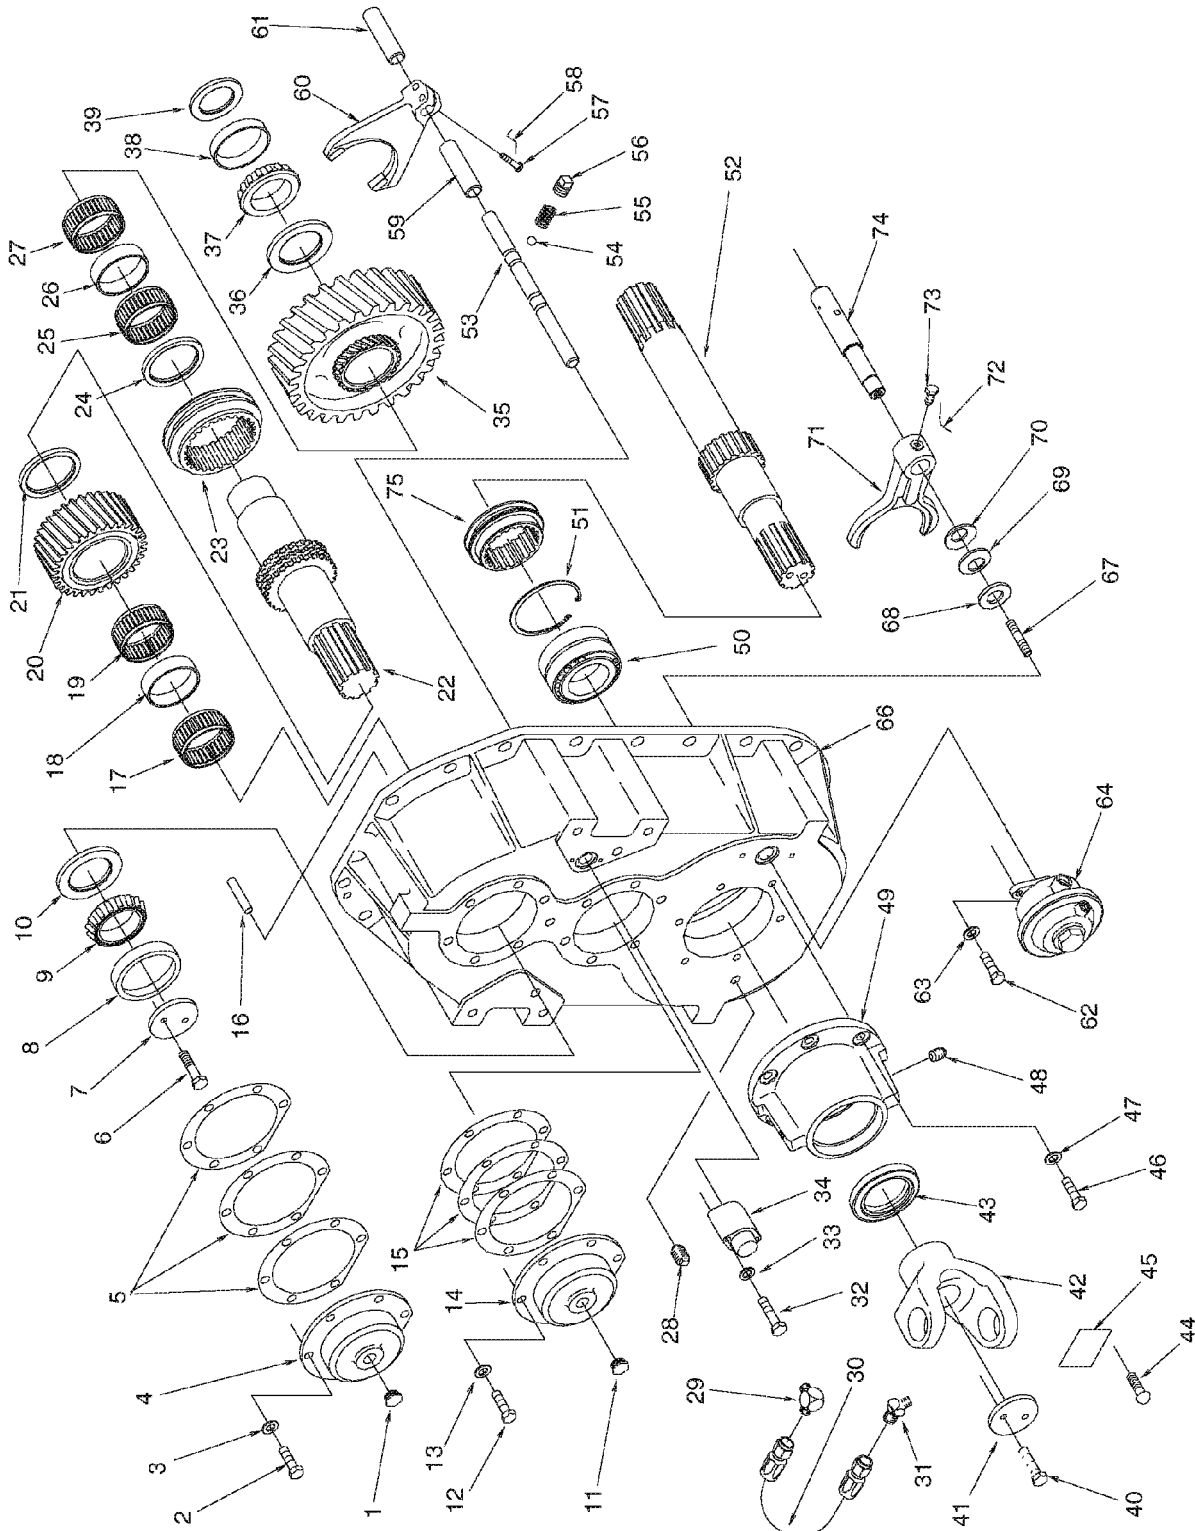
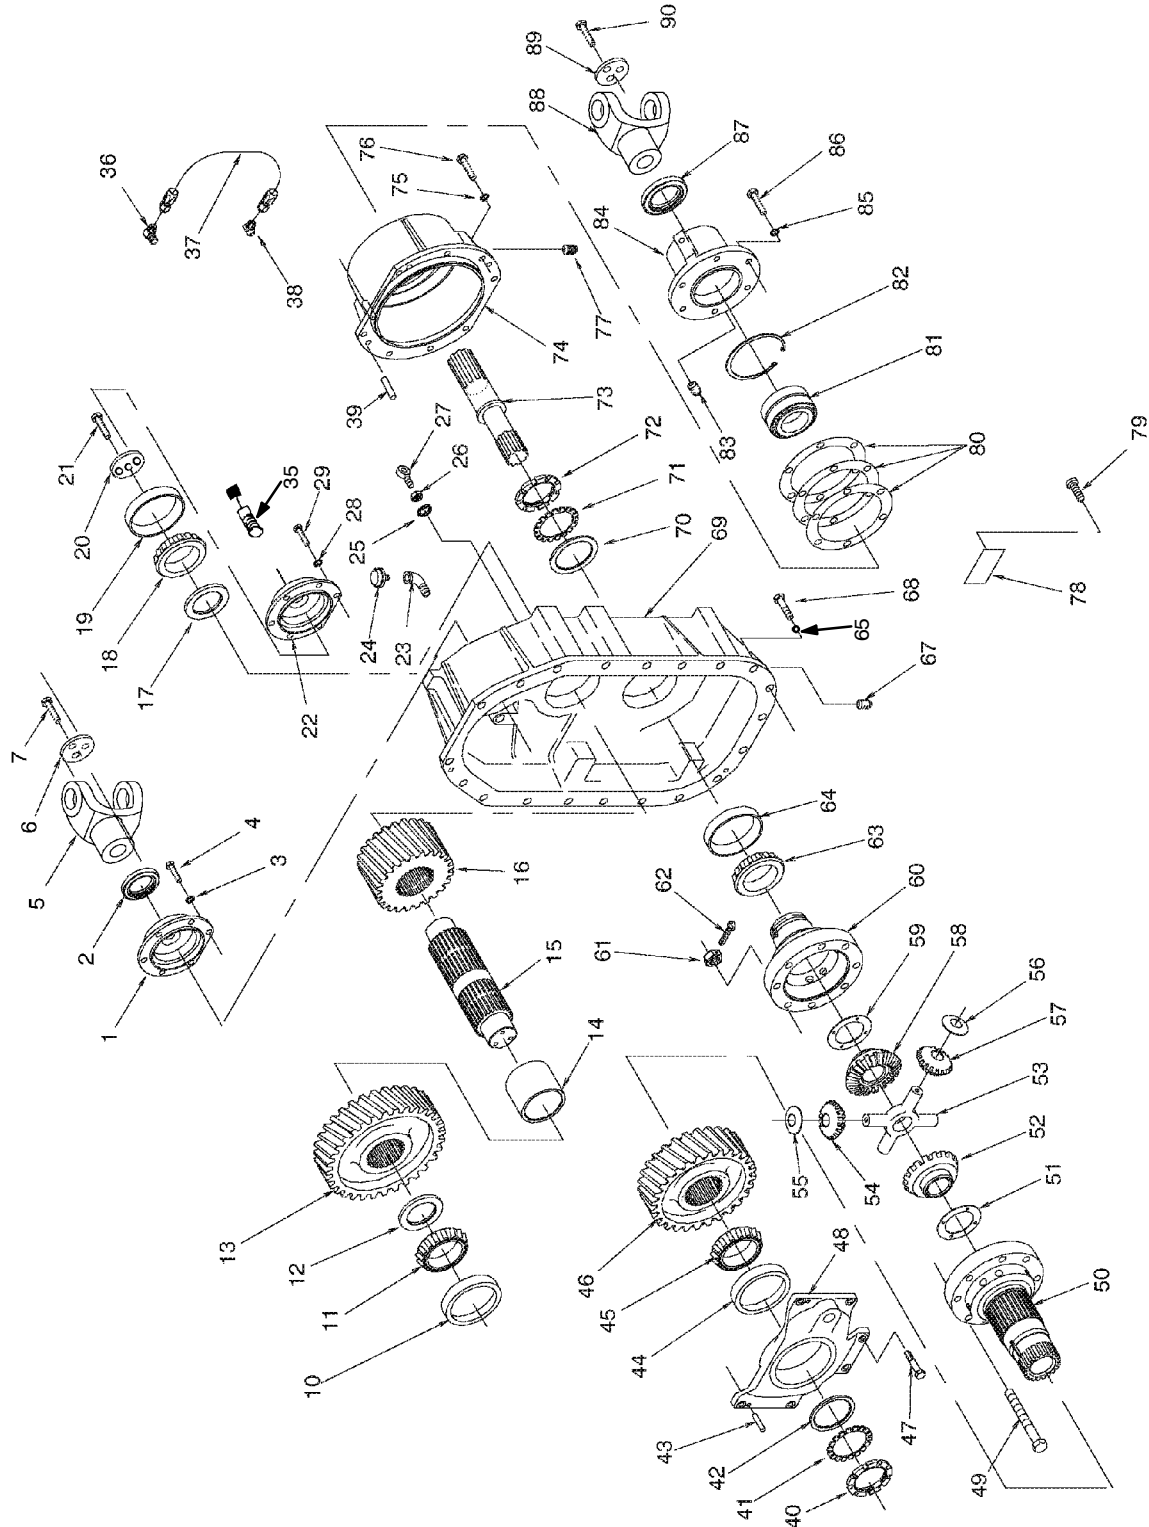

Figure 2. Transfer Case Assembly (Rear Housing).
Figure 3. Transfer Case Assembly (Front Housing).
## Legend for Figure 2.
Legend for Figure 3.
- (1) Position transfer case in maintenance stand, with front housing (Figure 3, Item 69) facing up.
- (2) Remove two capscrews (Figure 3, Item 7) and end plate (6) from upper shaft (15).
- (3) Using a puller remove yoke (Figure 3, Item 5) from upper shaft (15).
- (4) Remove two capscrews (Figure 3, Item 90) and end plate (89) from shaft (73).
- (5) Using a puller remove yoke (Figure 3, Item 88) from shaft (73).
- (6) Tag and disconnect hose (Figure 3, Item 37) from adapters (36 and 38).
- (7) Remove six capscrews (Figure 3, Item 86), lockwashers (85), bearing cap (84), three shims (80) and lower front output shaft assembly from enclosure (74) and bevel gear differential.
- (8) Remove eight capscrews (Figure 3, Item 76) and lockwashers (75) from enclosure (74) and front housing (69).
- (9) Install jack bolts in holes on enclosure (Figure 3, Item 74), tighten alternately to separate enclosure from front housing (69) and dowel pin (39). Remove enclosure (74).
- (10) Using a suitable lifting device, remove bevel gear differential assembly from transfer case.
- (11) Remove speedometer sending unit (Figure 3, Item 35) from end cap (22).
- (12) Remove six capscrews (Figure 3, Item 29), lockwashers (28), and end cap (22), from front housing (69).
- (13) Remove oil seal (Figure 3, Item 2), six capscrews (4), lockwasher (3), and end cap (1) from front housing (69).
- (14) Loosen jam nut (Figure 3, Item 26) and remove rod end (27) and oil seal (25) from upper shift rod (Figure 2, Item 53).
- (15) Remove breather (Figure 3, Item 24), elbow (23) and adapters (36 and 38) from front housing (69).
- (16) Position transfer case in maintenance stand with rear housing (Figure 2, Item 66) facing up.
- (17) Tag and disconnect hose (Figure 2, Item 30) from adapters (29 and 31)
- (18) Remove two capscrews (Figure 2, Item 32), lockwashers (33), and upper shift cover (34) from rear housing (66).
- (19) Remove two capscrews (Figure 2, Item 62), lockwashers (63), and air differential chamber (64) from rear housing (66).
- (20) Remove two adapters (Figure 2, Items 29 and 31) from rear housing (66) and bearing cap (49).
- (21) Remove two capscrews (Figure 2, Item 40) and end plate (41) from shaft (52).
- (22) Using a puller, remove yoke (Figure 2, Item 42) from shaft (52).
- (23) Remove six capscrews (Figure 2, Item 46), lockwashers (47), bearing cap (49), and lower rear shaft assembly from rear housing (66).
- (24) Remove six capscrews (Figure 2, Item 12), lockwashers (13), end cap (14) and shims (15) from rear housing (66).
- (25) Remove six capscrews (Figure 2, Item 2), lockwashers (3), end cap (4) and shims (5) from rear housing (66).
- (26) Remove plug (Figure 2, Item 56), outer detent spring (55) and outer detent ball (54) from rear housing (66).
- (27) Remove 20 capscrews (Figure 3, Item 68), and flatwashers (65) from rear housing (Figure 2, Item 66) and front housing (Figure 3, Item 69).
- (28) Using a suitable lifting device separate transfer case halves using jack bolt locations provided at top and bottom. Remove rear housing (Figure 2, Item 66) from front housing (Figure 3, Item 69) keeping it parallel to prevent binding of the shift rod assembly and dowel pins in the transfer case halves.